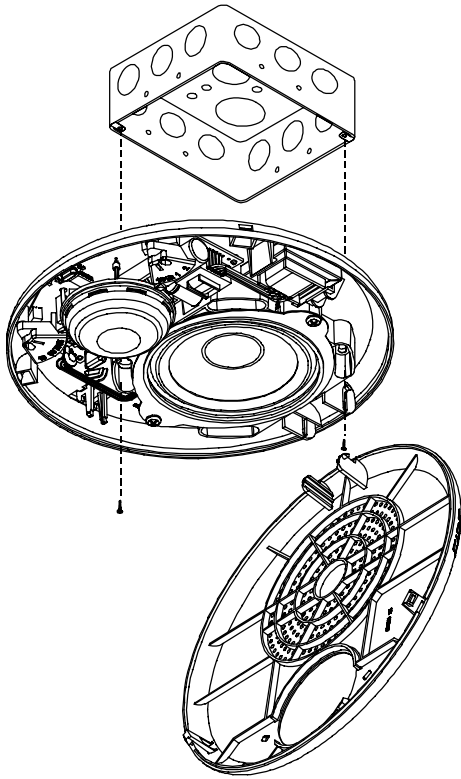

Figure 5: Mounting diagram
6. Mount the unit onto a compatible electrical box. See Figure 5.